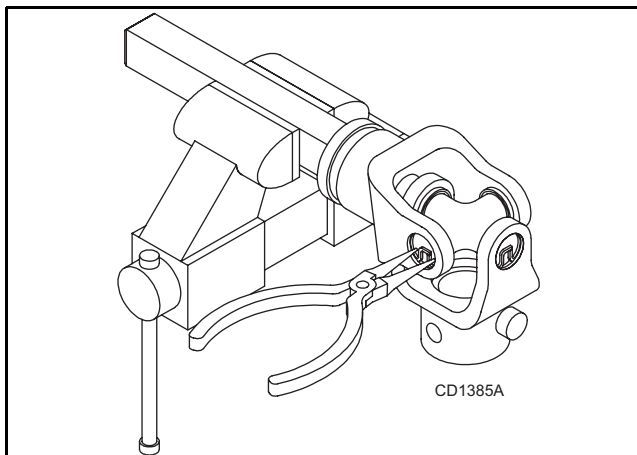

Figure 18
1. Remove external snap rings from yokes in four locations as shown in Figure 18.